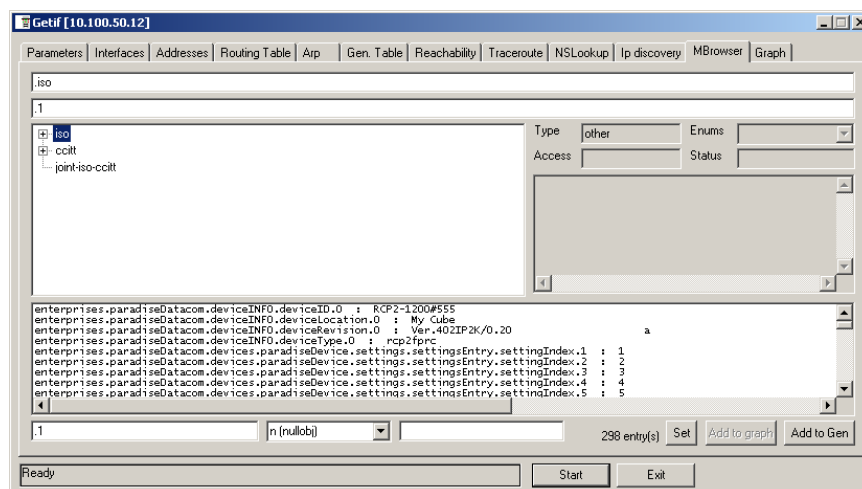

Figure 7-17: Getif MBrowser Window, with Update Data in Output Data Box
6. See update data in output data box (**Figure 7-17**).